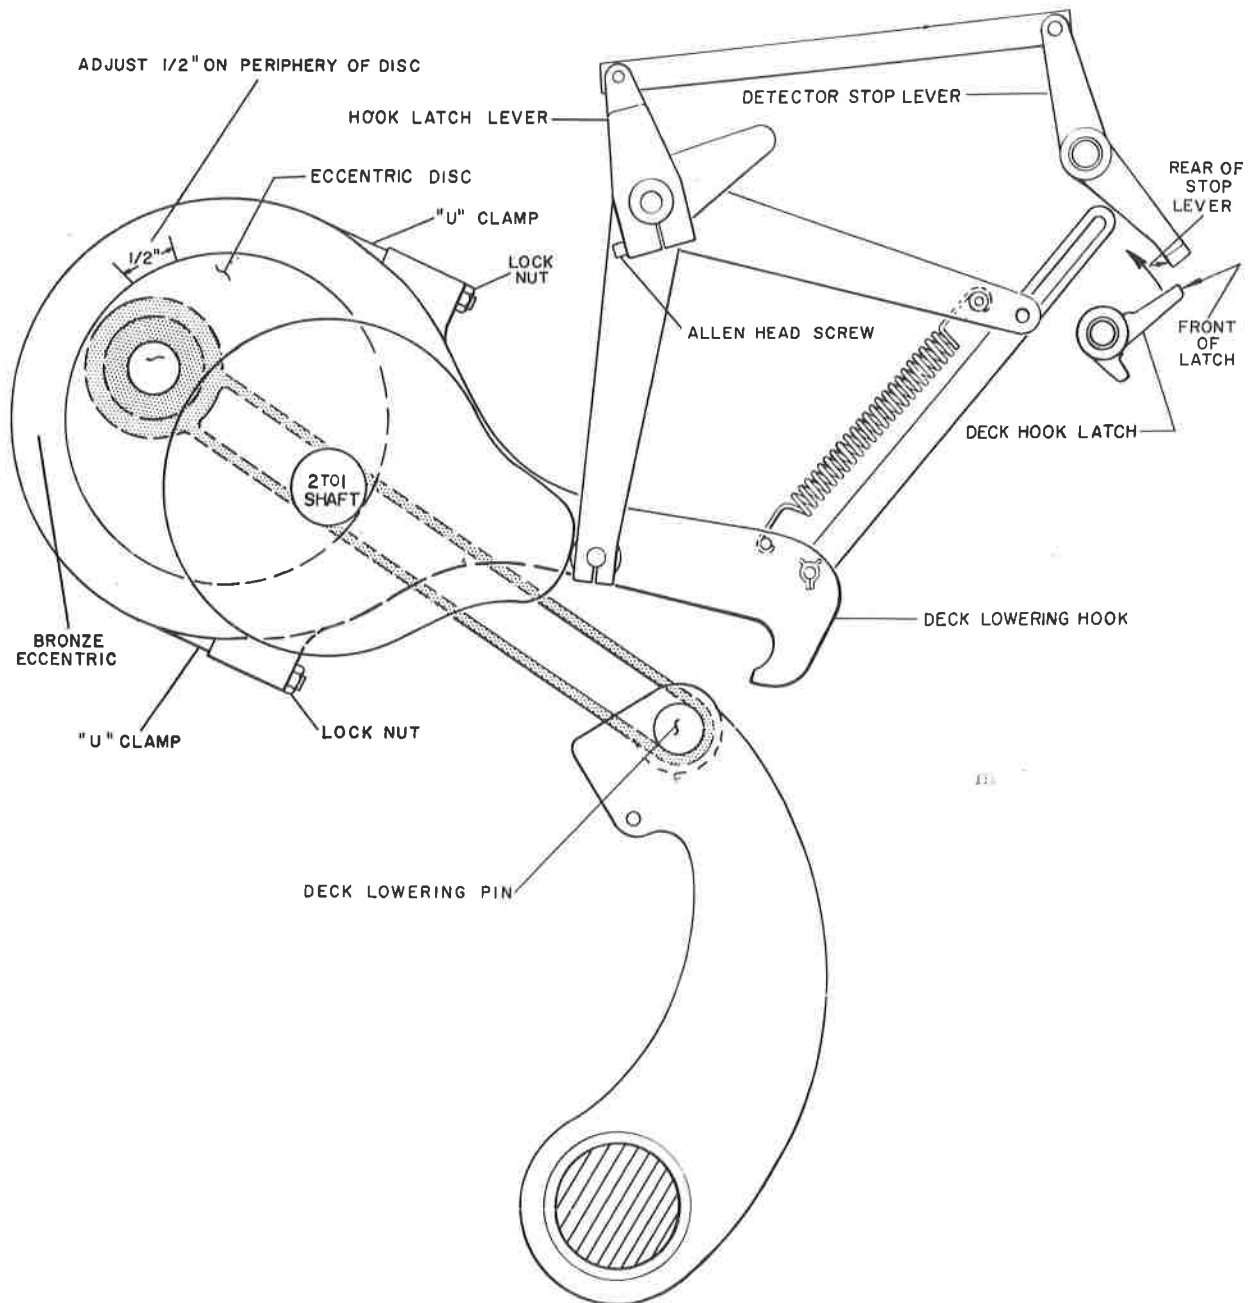

Figure 68. Deck Eccentric Adjustment
11. DECK ECCENTRIC ADJUSTMENT. (FIGURE 68)
12. DECK LOWERING HOOK LATCH ADJUSTMENT. (FIGURE 68)